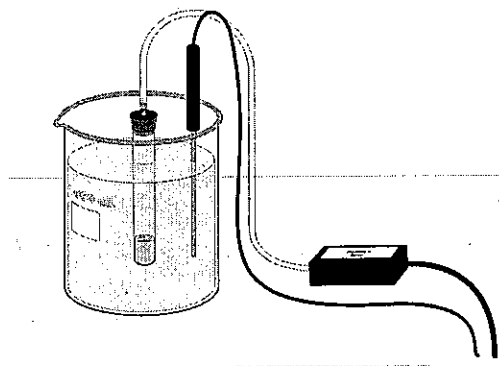

Figure 1
4. Use the plastic tubing to connect the one-hole rubber stopper to the Gas Pressure Sensor, as shown in Figure 1. About one-half turn of the fittings will secure the tubing tightly.